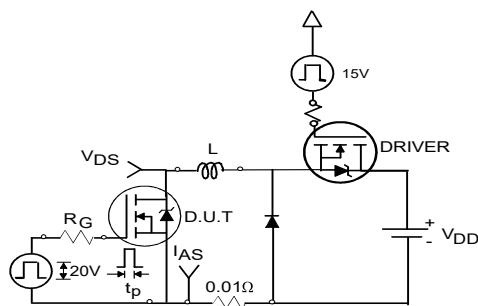

Figure 23a: Unclamped Inductive Test Circuit
3. Equation below based on circuit and waveforms shown in Figures 23a, 23b.